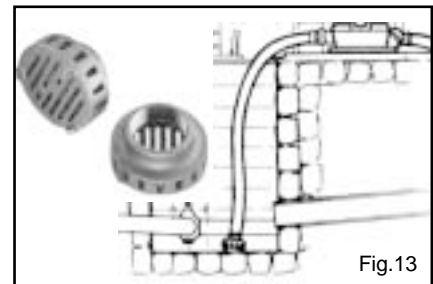

Fig.13
- **USING A STRAINER ON THE INLET** - Like any vacuum used to pick up solid matter, if the solid material is to large it will block the inlet or get stuck in the suction line. Also a suction hose can suck up on a flat surface cutting off all flow. Using an Edson stainer will prevent these conditions. Order Edson Shatteredproof Bronze Strainers 111BR -150 for 1 1/2". Fig.13